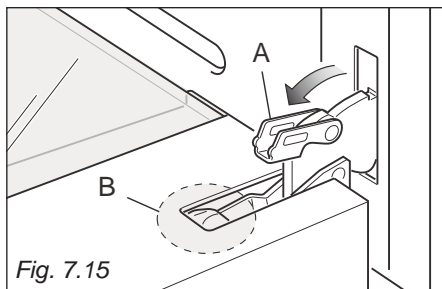

Fig. 7.15
- Open the lever "A" completely on the left and right hinges (fig. 7.15).
- Gently close the door (fig. 7.16) until left and right hinge levers "A" are hooked to part "B" of the door (fig. 7.15).